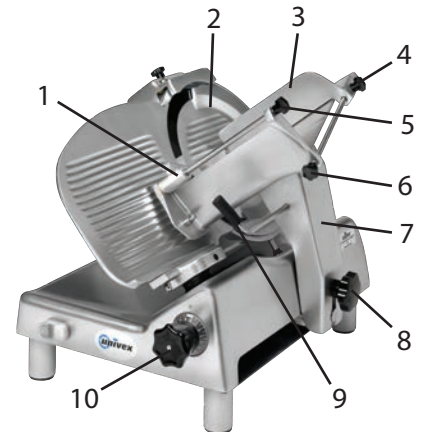
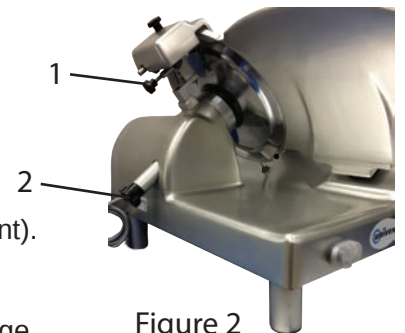

Figure 1
Figure 2
Warning: The protective guard (Overview [5]) covers the knife edge completely except at the forward edge where slicing will be performed. This forward edge is covered by the edge of the fence, but only when the slice adjustment is completely closed. The knife guard (Overview [6]) can be removed for cleaning by unscrewing the knife guard knob (refer to p.6 Figure 2 [2]). For safety, keep the knife guard on at all times except when cleaning. Never operate the slicer with the knife guard removed
1. Turn slice adjustment knob (Figure 1 [10]) to the fully closed position (beyond "0") so that the knife edge is not exposed.
2. Remove the following items to disassemble the slicer (Figure 1 & 2):
a. Last Slice Device Shaft: Unscrew knob and shaft (Figure 1 [5]) counter-clockwise from carriage and through Last Slice Device (Figure 1 [1]) to remove and set aside.
b. Adjustment Spacer Shaft: First loosen Adjustment Spacer Knob (Figure 1 [4]). Now unscrew the Adjustment Spacer Shaft (Figure 1 [6]) counter-clockwise to remove and set aside. Adjustment Spacer (Figure 1 [3]) can now be removed and set aside.
c. Carriage Arm Handle: Loosen and remove the black handle (Figure 1 [9]) and set aside.
d. Carriage Arm: Loosen the Carriage Arm Knob (Figure 1 [8]) and set aside for cleaning. Pull straight upwards on the Carriage and Arm (Figure 1 [7]) and set the Carriage Assembly aside.
e. Slice Adjustment Knob: Remove screw located on front of Slice Adjustment Knob (Figure 1 [10]) and set aside. Pull knob forward to remove and set aside (Note the shaft is keyed to ensure correct alignment).
f. Sharpener Assembly: Unscrew sharpener locking pin (Figure 2 [1]) and remove sharpener by pulling upwards. Use caution around blade edge.
g. Blade Guard: Loosen the Blade Guard Knob and shaft (Figure 2 [2]) and remove. Set aside for cleaning. Use the handle on the Blade Guard (Figure 1 [2]) and remove. Be careful when working around the blade edge.
- 3 Adjust the Thickness Control Dial (Figure 1 [12]) to beyond "0". This will ensure that the blade edge is not exposed to the operator.